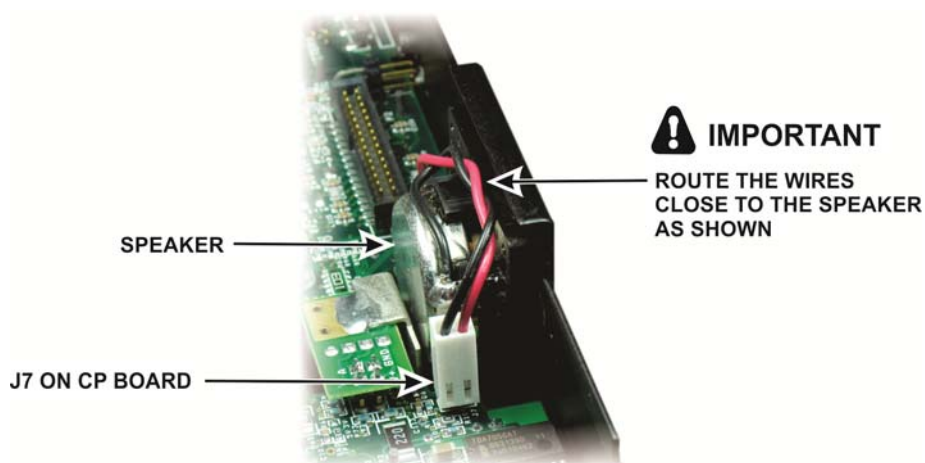

Figure 17. Connecting the Speaker to the CP Board.
- ☐ Plug the speaker connector into J7 next to the encoder board (see Figure 17).